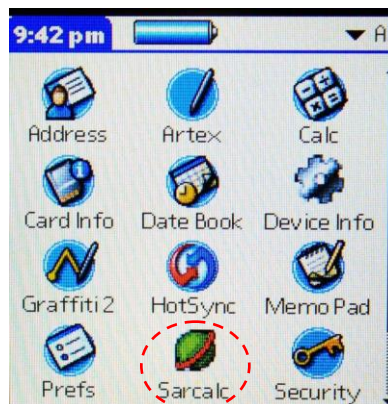

Figure 9: Sarcalc Icon
1. Select the Sarcalc program by tapping the "Sarcalc" icon (Figure 9).